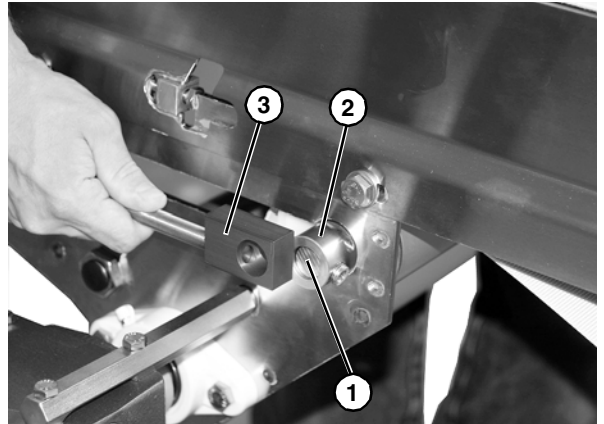

Figure 41
13. Slide in shaft (**Figure 41, item 1**) into locking collar (**Figure 41, item 2**) and remove tension block (**Figure 41, item 3**) from tensioner assembly shaft.